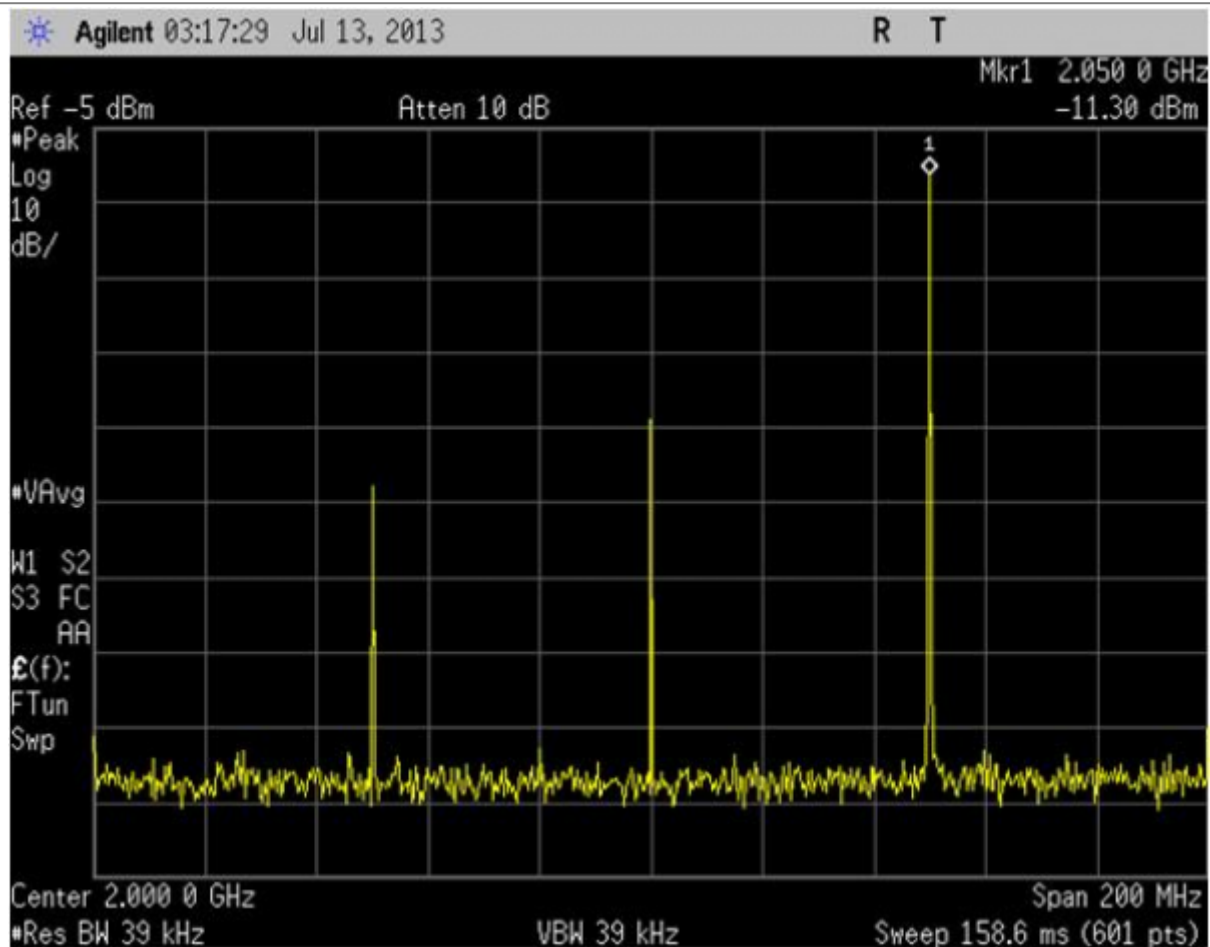

Figure 7 AD9142A-M5372 Eval Board output Spectrum
i. Go back to the AD9142A SPI software and toggle the “FIFO SPI RESET REQUEST” button (from 0 to 1 and back to 0) to reset the FIFO. The FIFO level readback registers (INTEGRAL and FRACTIONAL) should now match the FIFO level request registers. The AD9142A SPI software and the spectrum analyzer should look like Figure 6 and Figure 7 respectively.